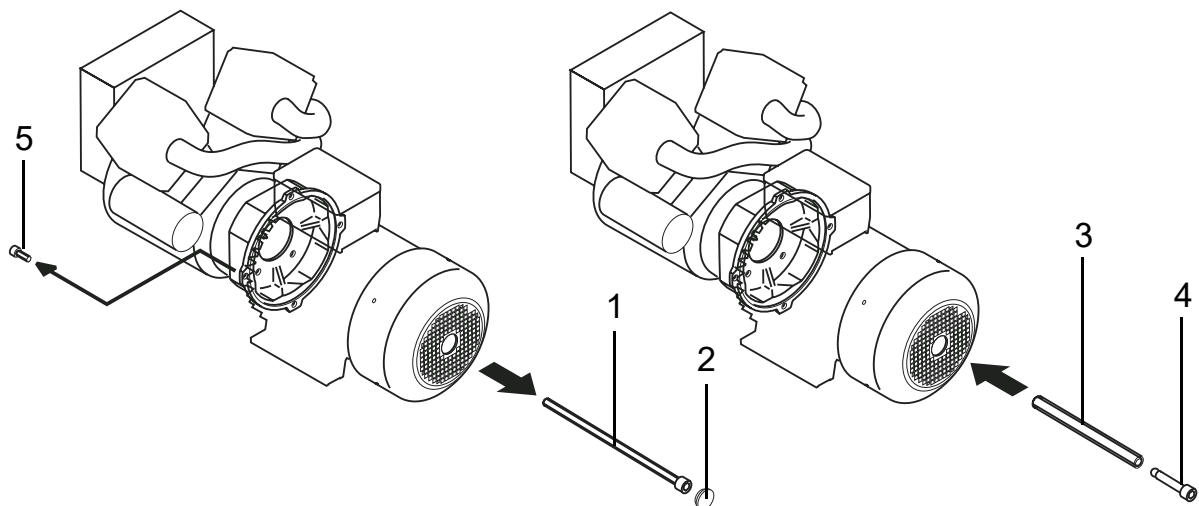

Fig. 38 Disassembly of brushless single-bearing generators with tension bolts (1)
- ⇒ Fig. 38, Disassembly of brushless single-bearing generators with tension bolts (1), page 111,
- > Remove the covering lid [2] (Figure 38) from the fan wheel cover.